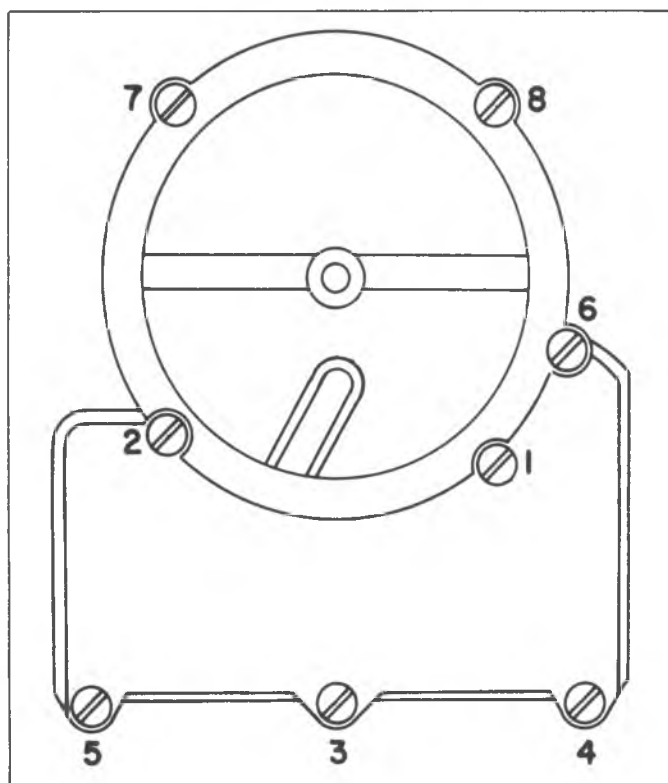

Fig. G11-Air Horn Tightening Sequence
2. Install and tighten air horn screws evenly and securely in sequence shown in Figure G11. The number one screw is the long screw.